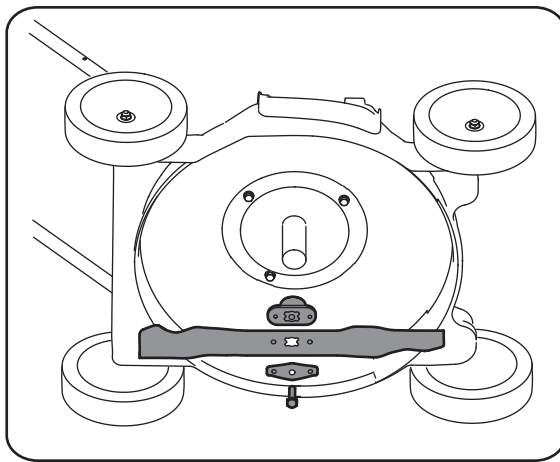

Figure 11
3. Remove the bolt and the blade bell support which hold the blade and the blade adapter to the engine crankshaft. See Figure 11.
9. Install the blade adapter on the crankshaft with the "star" away from the engine. See Figure 11. Place the blade with the side marked "bottom" (or with part number) facing away from the adapter. Align the blade bell support over the blade with the tabs in the holes of the blade and insert the hex bolt.